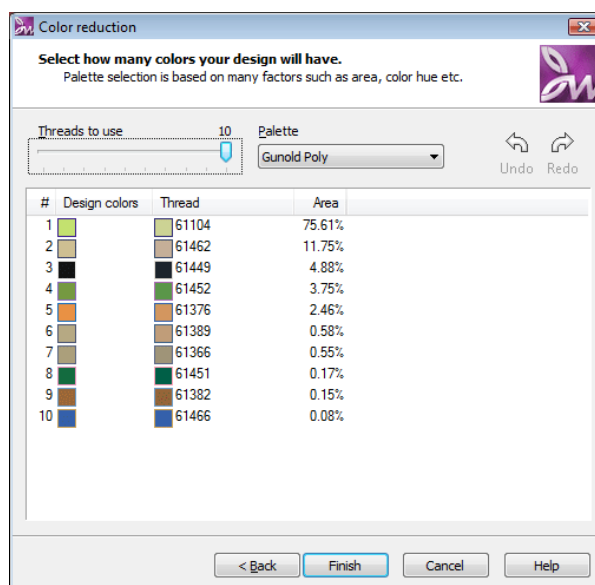

Figure 2.27: Color reduction dialog
25. The **Color reduction** dialog (Figure 2.27) will appear to select a **Thread palette** to be used for the design.